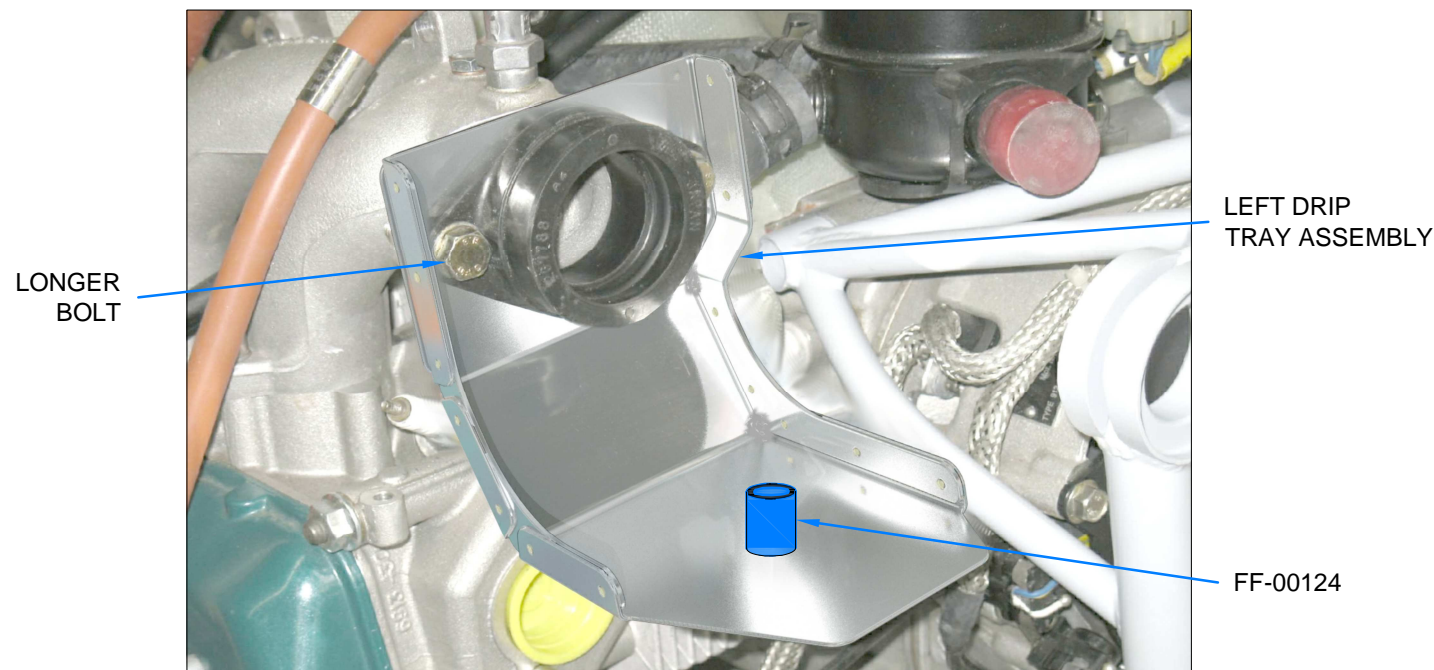

FIGURE 2: INSTALL DRIP TRAY ASSEMBLIES
Step 2: Install the left Drip Tray Assembly between the intake manifold and the carburetor flange assembly as shown in Figure 2. Verify that the O-ring is still in place on the flange of the intake manifold before putting the left Drip Tray Assembly in position. Install the longer bolt to the outboard side. Use Loctite 243 and torque both bolts to 135 in.-lbs. See Rotax 912 ULS Illustrated Parts Catalog Figure 73-10-00-1